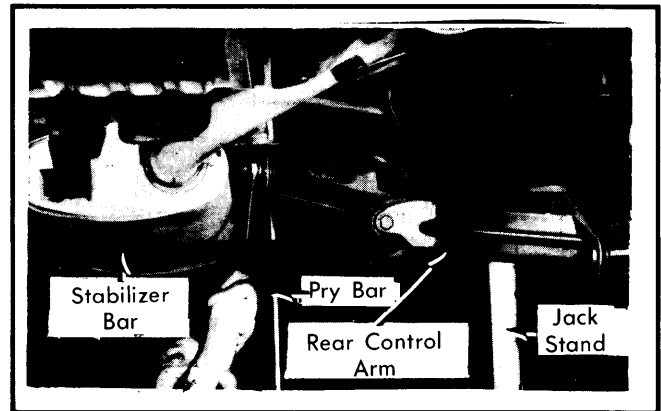

Fig. 17 Adjusting Rear Wheel Alignment (Eldorado & Seville)
4) Toe adjustments are made at inner pivot bushings. Loosen nut and bolt at inner bushing. Use pry bar, if necessary. See Fig. 17. Move control arm rearward to increase toe-in and forward to increase toe-out. Tighten bushing nut to 75 ft. lbs. and recheck toe setting.